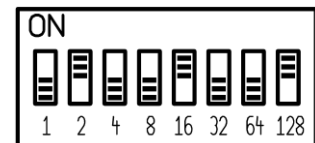

Fig. 2:
Set the address of the JAB0410 module using the Dual Inline Package (DIP) switches on the face of the JAB0410 module. The address equals the sum of the numbers set to ON. For example, if the second (2), the fifth (16), and the eighth (128) DIP switches are set to ON, the device address is 146 (2 + 16 + 128 = 146). See Figure 2.